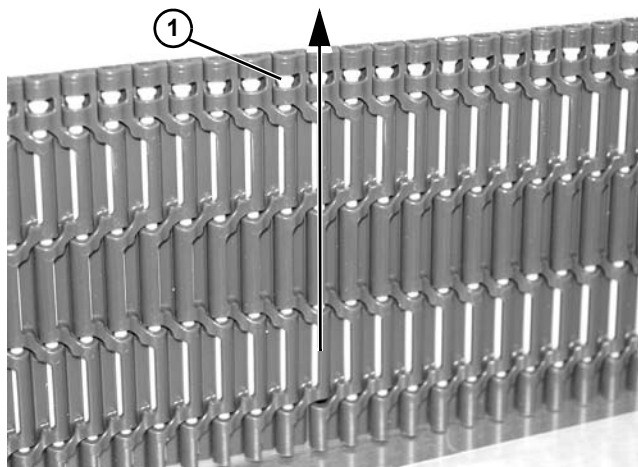

Figure 161
*Note that head of pin (**Figure 161, item 1**) should be removed in direction shown.*